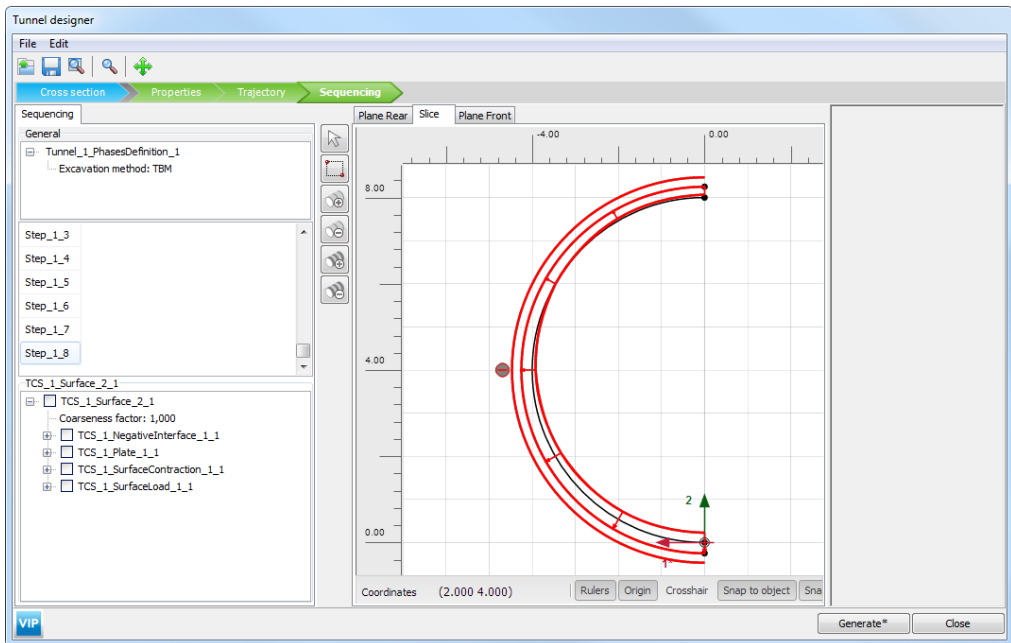

Figure 5.17 *Slice* tabsheet in the *Tunnel designer* Step_1_8
- Step_1_8, final lining:** Select the *Slice* tabsheet and select the outer surface. In the *Selection explorer*, deactivate the grout pressure and activate the negative interface. In the *Slice* tabsheet again, select the outer volume. Activate it, click the material and select the *Concrete* option from the drop-down menu (Figure 5.17).